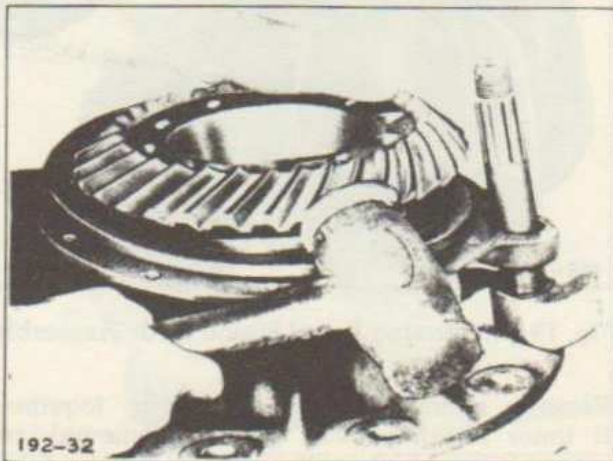

Fig. 25—Removing Gear from Wheel Hub
Tap gear (48) off hub (49) with soft hammer. (See Figure 25). Wire shims (50) together. Separate oil seal (45) from cover (44) after sliding cover off hub and detaching brake cam (68). Remove and clean breather (81). Hold gear in vise, tap out cup of bearing (51). Tap cup of bearing (46) out of hub. Remove cone of bearing (51) off spindle.